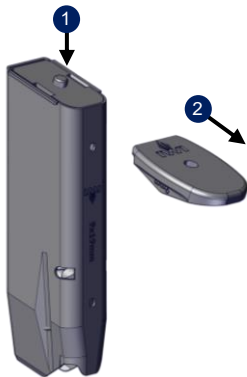

Fig. 29
2. Hold the magazine with the base facing upwards; with the aid of a small pointed object, push the base catch button inward (Fig. 29).